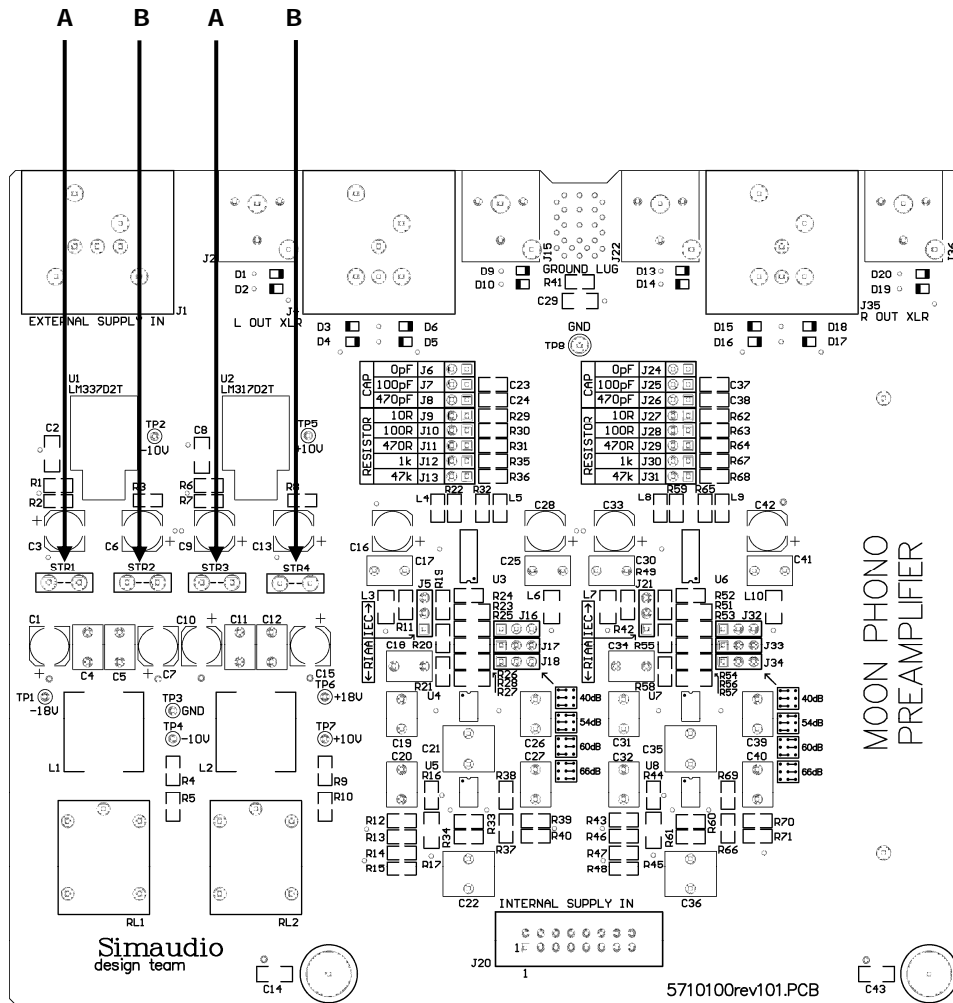

Figure 1: MOON 310LP Circuit Board layout
Prior to connecting your **MOON 310LP Phono Preamp** to the **MOON 320S Power Supply**, you **must** move two (2) internal jumpers inside your **MOON 310LP**. Please refer to page 8 of your **MOON 310LP** owner's manual for detailed instructions on how to remove the chassis cover. Referring to the above diagram of the 310LP, you will see an array of four (4) jumper sockets labeled STR1, STR2, STR3 and STR4. The factory default position for the 2 jumpers is in sockets STR2 and STR4 (positions B in figure 1). To properly operate the **MOON 310LP** in conjunction with the **MOON 320S**, you will need to move these 2 jumpers into sockets STR1 and STR3 (positions A in figure 1). Failure to make these adjustments may cause damage that is not covered by warranty.